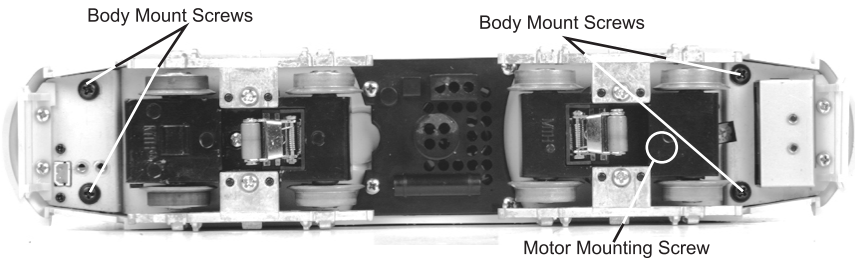

Figure 3
1. To access the gear box, remove the cab from the chassis by unscrewing the body mount screws as seen in Figure 3 and lifting the cab from the chassis.
2. Once the cab is removed, remove the trucks by unscrewing the black Phillips motor mount screw located on the underside of the drive trucks (see Fig. 3).